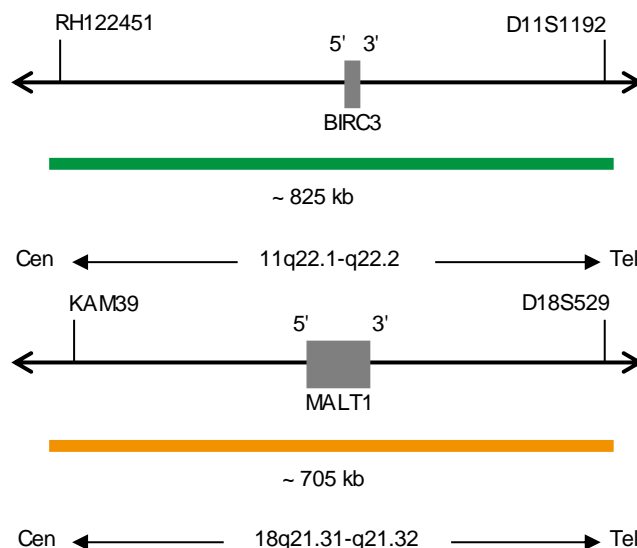

Fig. 1: Top: SPEC BIRC3 Probe map; Bottom: SPEC MALT1 Probe map (not to scale)
- ZyGreen (excitation 503 nm/emission 528 nm) labeled polynucleotides (12 ng/ μ l), which target sequences mapping in 11q22.1-q22.2* (chr11:101,756,072-102,581,817) harboring the BIRC3 gene region (see Fig. 1).
- ZyOrange (excitation 547 nm/emission 572 nm) labeled polynucleotides (6 ng/ μ l), which target sequences mapping in 18q21.31-q21.32* (chr18:56,021,766-56,724,408) harboring the MALT1 gene region (see Fig. 1).